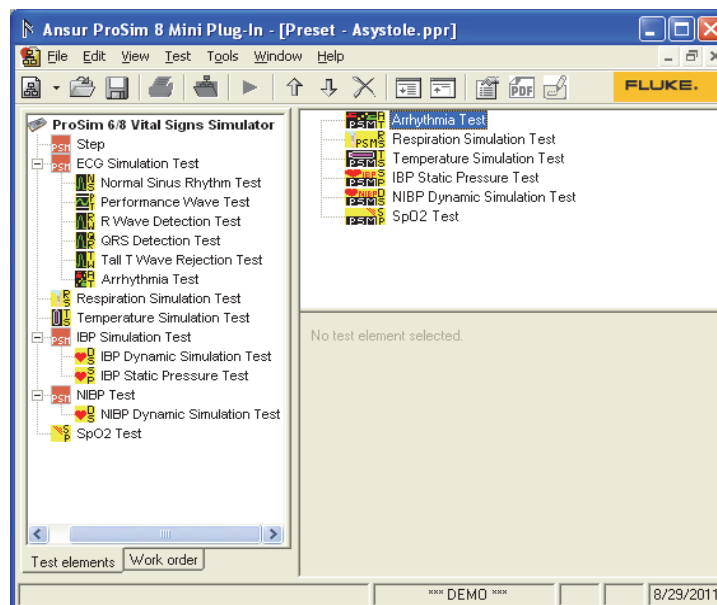

Figure 5-23. Custom Setup for a Test Element
3. Click the **Custom Setup** tab to open the window in Figure 5-23.